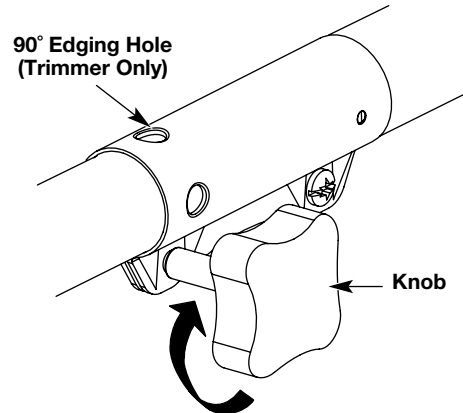

Fig. 24
3. Turn the knob clockwise to tighten (Fig. 24).
For edging (when using the line head cutting attachment with EZ-Link™ models), lock the release button of the cutting attachment into the 90° edging hole (Fig. 24).